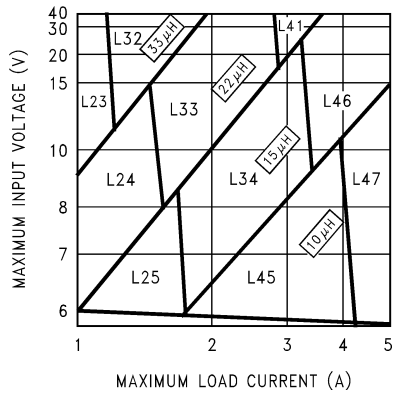
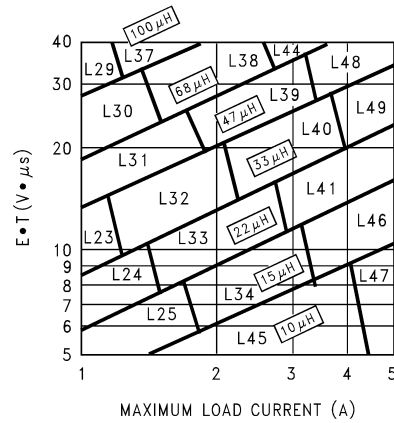

Figure 21. LM2678-3.3
Figure 24. LM2678-ADJ
**Step 3:** Determine the inductor required by using one of the four nomographs, Figure 21 through Figure 24. Table 1 provides a specific manufacturer and part number for the inductor.
**Step 5:** Determine an input capacitor from Table 6 for fixed output voltage applications. Use Table 3 to find the specific capacitor type. For adjustable output circuits select a capacitor from Table 3 with a sufficient working voltage (WV) rating greater than  $V_{in\ max}$ , and an rms current rating greater than one-half the maximum load current (2 or more capacitors in parallel may be required).
**Step 3:** Use the nomograph for the 3.3V device, Figure 21. The intersection of the 16V horizontal line ( $V_{in\ max}$ ) and the 4A vertical line ( $I_{load\ max}$ ) indicates that L46, a  $15\mu\text{H}$  inductor, is required.
**Step 3:** To use the nomograph for the adjustable device, Figure 24, requires a calculation of the inductor Volt•microsecond constant ( $E \cdot T$  expressed in  $V \cdot \mu s$ ) from the following formula:
Using Figure 24, the intersection of  $27V \cdot \mu s$  horizontally and the  $3.5A$  vertical line ( $I_{load\ max}$ ) indicates that L48, a  $47\mu H$  inductor, or L49, a  $33\mu H$  inductor could be used. Either inductor will be suitable, but for this example selecting the larger inductance will result in lower ripple current.
When using the adjustable device in low voltage applications (less than  $3V$  output), if the nomograph, Figure 24, selects an inductance of  $22\mu H$  or less, Table 12 and Table 13 do not provide an output capacitor solution. With these conditions the number of output capacitors required for stable operation becomes impractical. It is recommended to use either a  $33\mu H$  or  $47\mu H$  inductor and the output capacitors from Table 12 and Table 13.